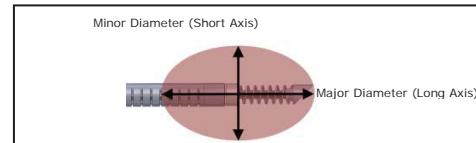

Figure 3: Ablation Zone and its dimensions
14. Set power level on the MetaSTAR RF Generator to the desired level to create thermal distribution for the major and minor diameter (see in Figure 3). Refer to MetaSTAR RF Generator IFU for Thermal Distribution Diameter Graph showing major and minor diameter at various power levels.